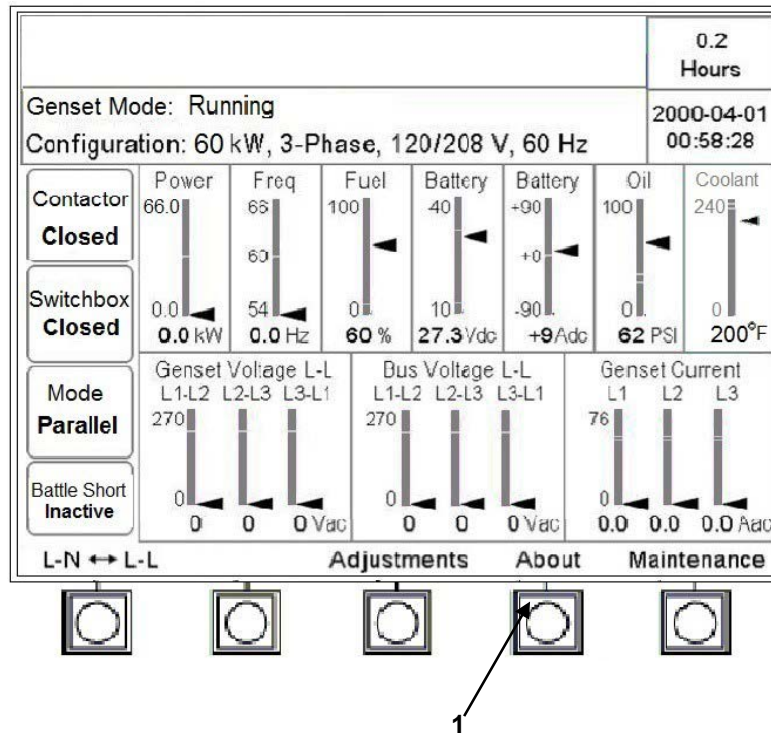

Figure 4-1. Main Screen
- (1) At the DCS on any generator in the network, press [About] (Figure 4-1, item 1).